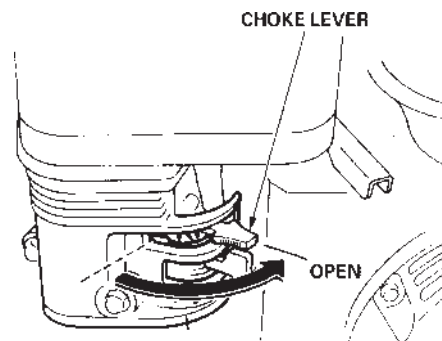

Figure 11. Engine Choke Lever (Open)
4. Place the **choke lever** (Figure 11) in the "OPEN" position if starting a **warm** engine or the **temperature is warm**.
7. If the engine has started, slowly return the choke lever (Figure 11) to the **OPEN** position. If the engine has not started repeat steps 1 through 6.